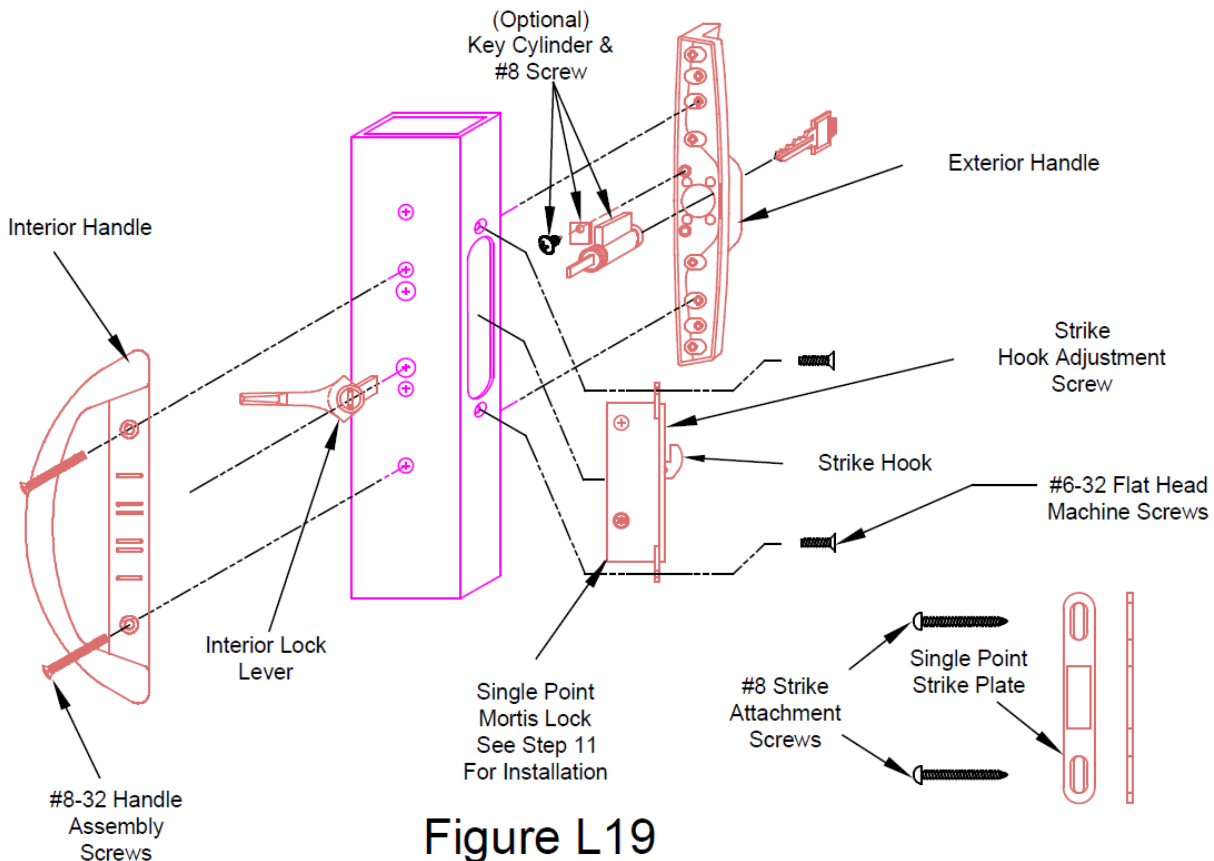

Figure L19
- F. Complete the handle assembly as shown in Figure L19.